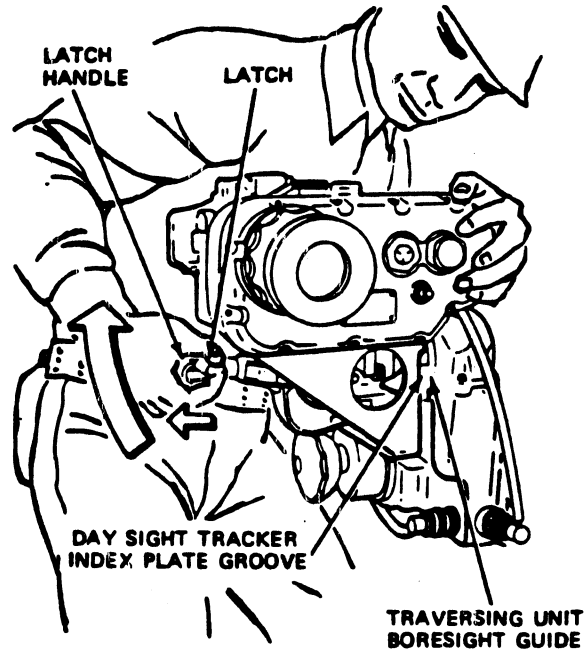

Fig 2-12. Installing the day sight tracker--continued.
Step 4. Join the day sight tracker index plate groove with the traversing unit boresight guide, hold the tracker flush, and pull the latch handle all the way up until the latch releases (fig 2-12).